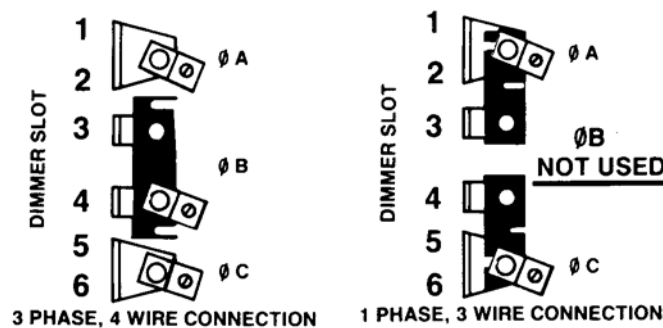

Figure 4 - Bus Conversion
- Loosen the four bolts securing the feeder lugs/bussing. See Figure 4.